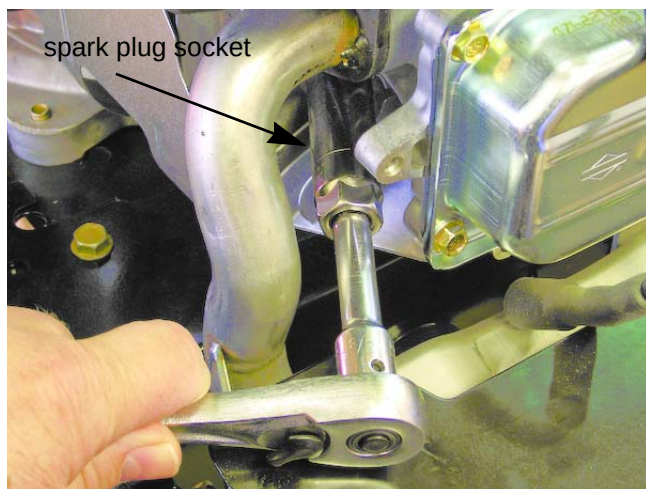

Figure 9.2
- ##### 1b. Remove the spark plug(s) with the appropriate spark plug socket. See Figure 9.2.